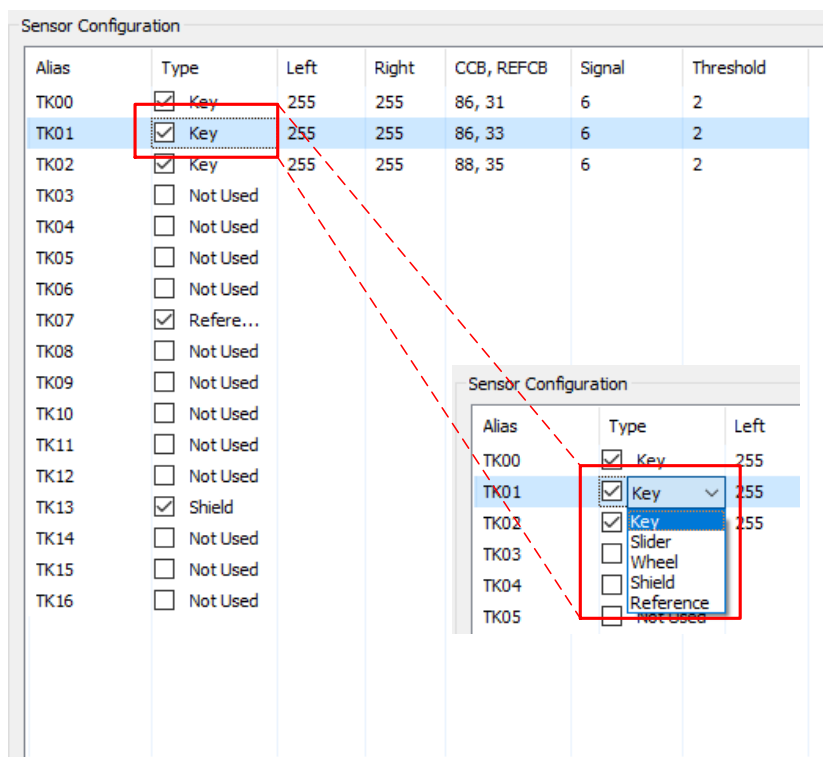

Figure 5-5 Select Sensor Type
- **Type:** User needs to click the checkbox to enable the selected channel, and then select the sensor type in the dropdown list, as shown in Figure 5-5.